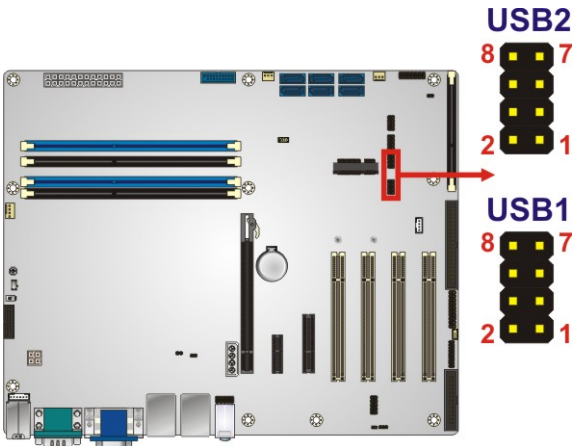

Figure 3-28: USB 2.0 Connector Locations
**CN Location:** See Figure 3-28